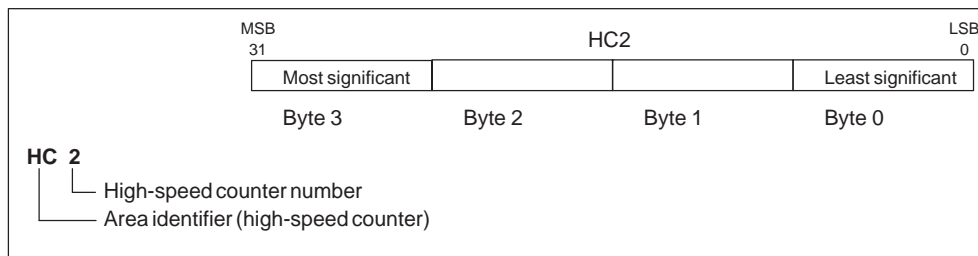

Figure 5-8 Accessing the High-Speed Counter Current Values
High-speed counters are designed to count very high-speed events independent of the CPU scan. High-speed counters have a signed, 32-bit integer counting value (or current value). To access the count value for the high-speed counter, you specify the address of the high-speed counter, using the memory type (HC) and the counter number (such as HC0). The current value of the high-speed counter is a read-only value and, as shown in Figure 5-8, can be addressed only as a double word (32 bits).